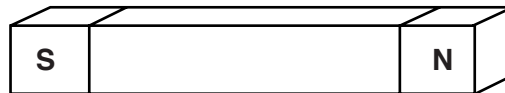

Fig. 2.1
- 1 Each magnet should have its N pole labelled 'N' and its S pole labelled 'S' as shown in Fig. 2.1.